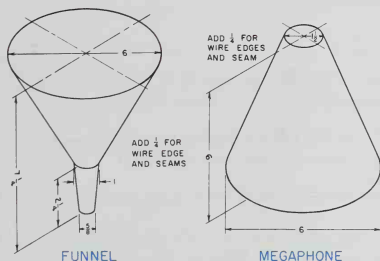

Fig. 11-14. Funnel and megaphone problems.
1. Develop the pattern for the funnel or megaphone shown in Fig. 11-14.